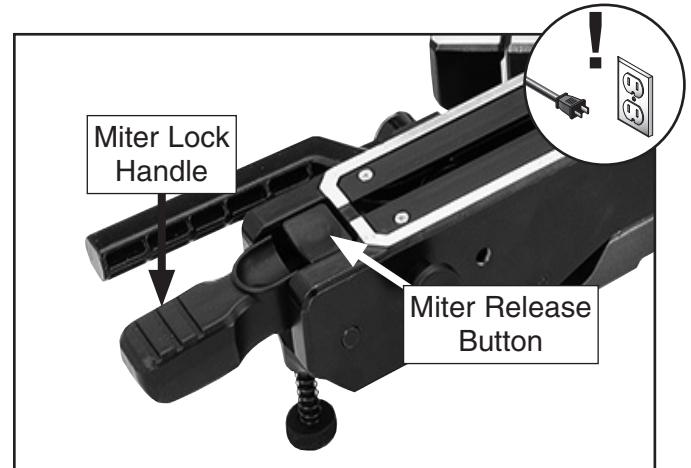
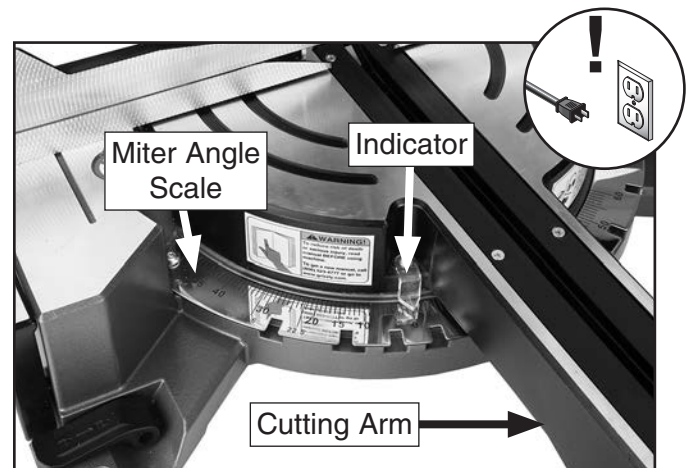

Figure 48. Cutting arm.
Figure 49. Miter angle scale.
2. Lift miter lock handle to unlock table position (see **Figure 48**).
3. Press and hold miter release button (see **Figure 48**) and use miter lock handle to rotate cutting arm to desired angle (see **Figure 49**).